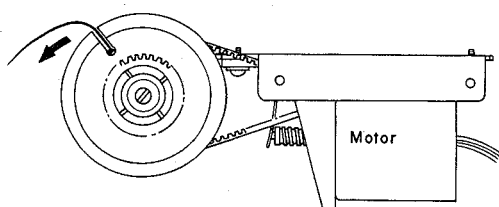

Fig. 5.2.4
- (5) Refer to Figs. 5.2.4 and 5.2.5. Insert the knot of Thread B in the notch of the Volume Clutch, wind the thread twice around it, and fix it temporarily with scotch tape, etc. so as not to make it loose.